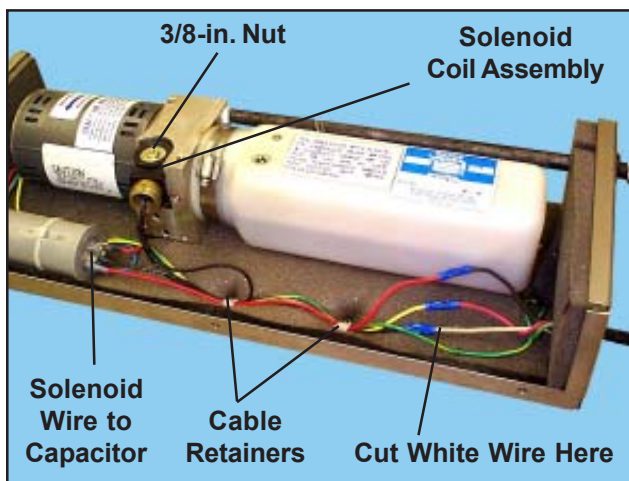

Figure 46. Solenoid Valve and Wires
4. With a Phillips screwdriver, remove the two cable retainers (Figure 46) and free the two black wires.
6. Cut the white wire that connects to the other solenoid wire. Cut the wire close behind the butt-joint connection (Figure 46).
9. Slide the new coil assembly back onto the stem shaft (Figure 46).